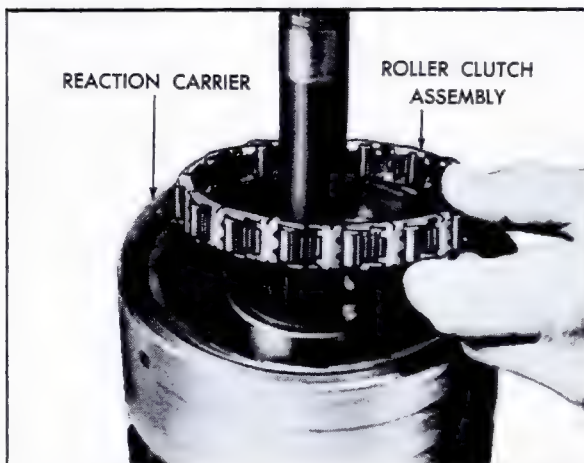

Fig. 7-104 Installing Roller Clutch in Reaction Carrier
18. Install roller clutch assembly in reaction carrier, Fig. 7-104.